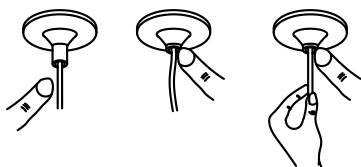
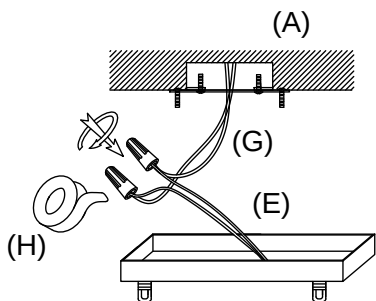

Fig. 2
Fig. 3
Step 1: Press the wire locker and adjust the hanging wire to get a proper height (Fig. 2).
Step 2: Connect the fixture wires (E) to the house wires (G), black or brown to live wire, white or green to neutral wire, green/bare copper/yellow and green wire to ground wire. Wrap the connectors with electrical tape (H) separately.
Step 3: Spread apart the wires so that the live wires are on one side of the outlet box and the neutral wires are on the other side (Fig. 3).
Adjust the wire length by pressing the wire locker on the canopy to get it level (Fig. 2).